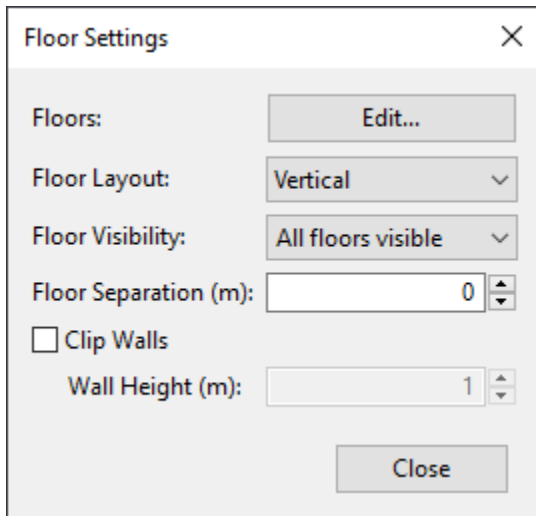

Figure 15. Floor Settings dialog
1. Press the **Edit Floor Settings** button  on the toolbar or in the **View** menu, select **Floor Settings**. This will open the **Floor Settings** dialog as shown in Figure 15.